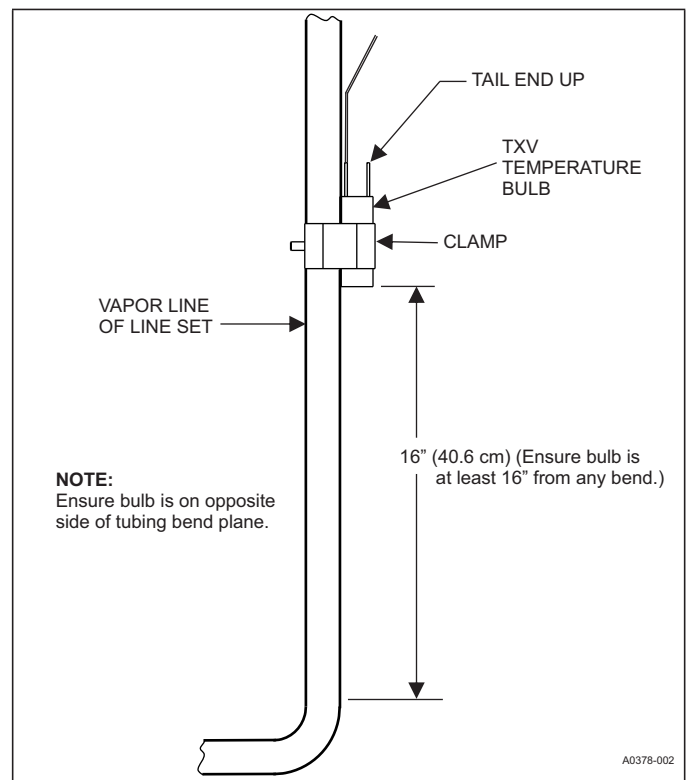

FIGURE 15: Vertical Temperature Bulb Orientation
- b. If bulb installation is made on a vertical run, locate the bulb at least 16" (40.6 cm) from any bend, and on the tubing sides opposite the plane of the bend. Position the bulb with the tail of the bulb at the top, so that the bulb acts as a reservoir. See Figure 15.